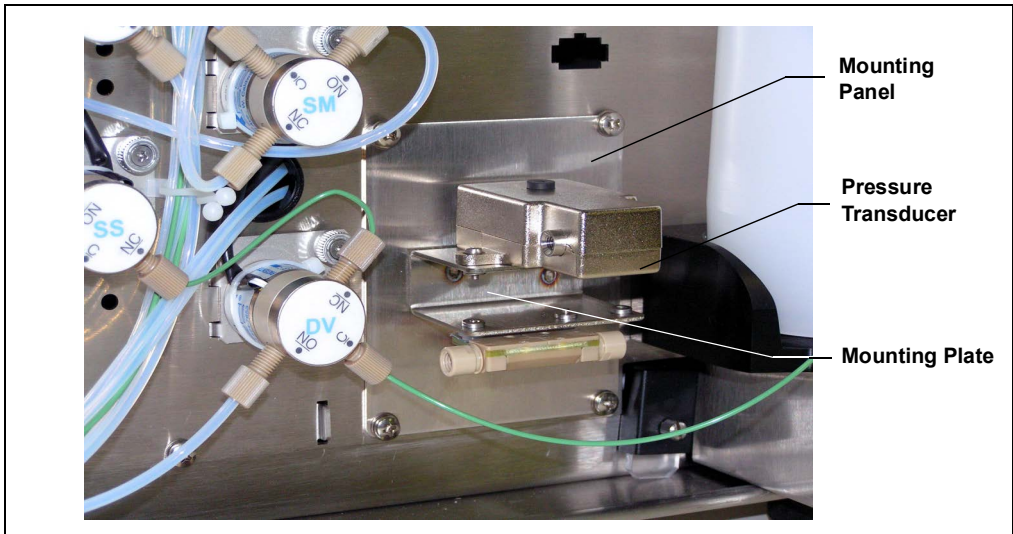

Figure 3-33. Pressure Transducer
3. Thread the pressure transducer's cable through the upper slot in the mounting panel (see Figure 3-33).
4. Using the screws and washers included in the Pressure Sensor Kit, attach the pressure transducer to the mounting plate as shown in Figure 3-33.